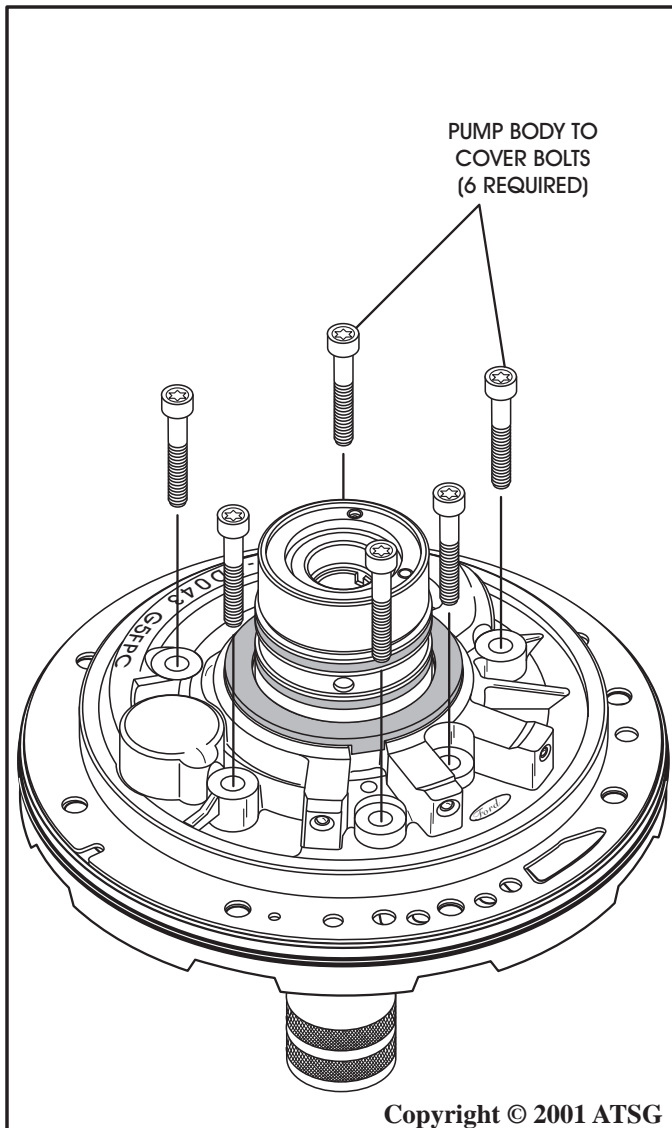

Figure 61
17. Turn the assembly over and install the six bolts that retain the body to the cover, as shown in Figure 61.